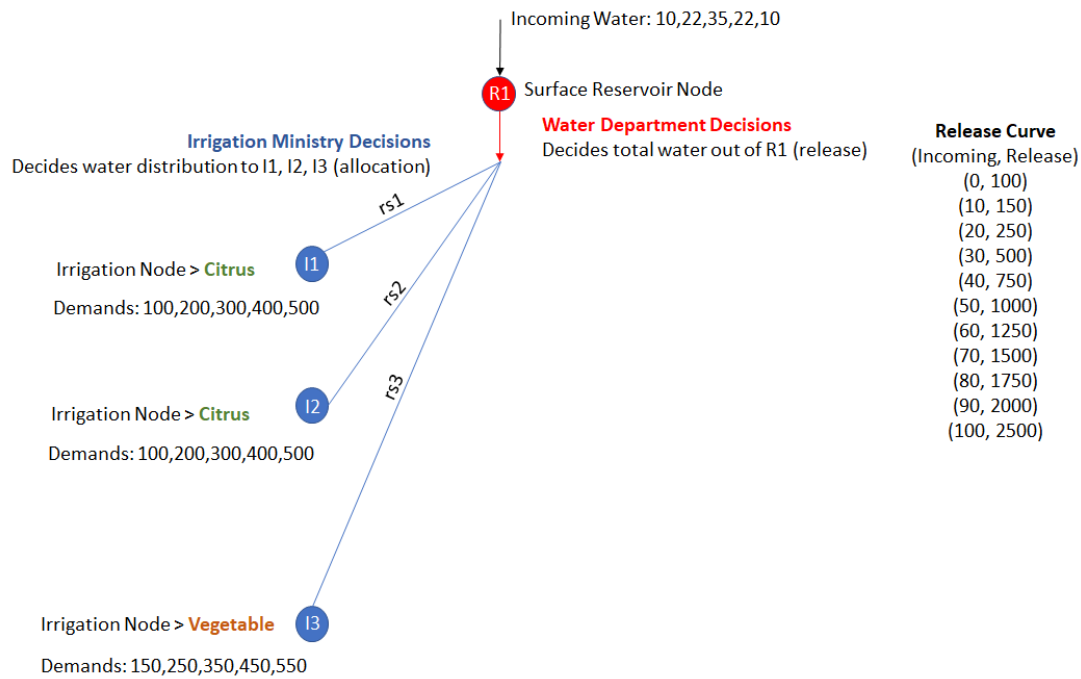

Figure 1: Trivial Example Setup. Note
The pynsim trivial demo network is set up as shown in Figure 1 and is intended to calculate the irrigation deficit in the system during the 5 time step period. It could be considered a representation of a canal system in which decisions are simplified but typify how pynsim could be used with two decision makers.
- `dry_year_simulation.py` puts the parts together to create Figure 1 (shown above). It creates an instance of the simulator, defines the timesteps, creates an instance of the network. It includes the Incoming Water as an input. The instances of the desired nodes are created to have 1 surface reservoir (sr1), one citrus farm (irr1), another citrus farm (irr2) and a vegetable farm (irr3). Notice that the variable name is different from the name property (for example variable name sr1, property name "R1"). The links, nodes and institutions are added to the network. Note the order of addition as the nodes are added to the institutions and to the network separately. The simulation is started here.
With the incoming water and the release curve shown in Figure 1, the expected releases would be: